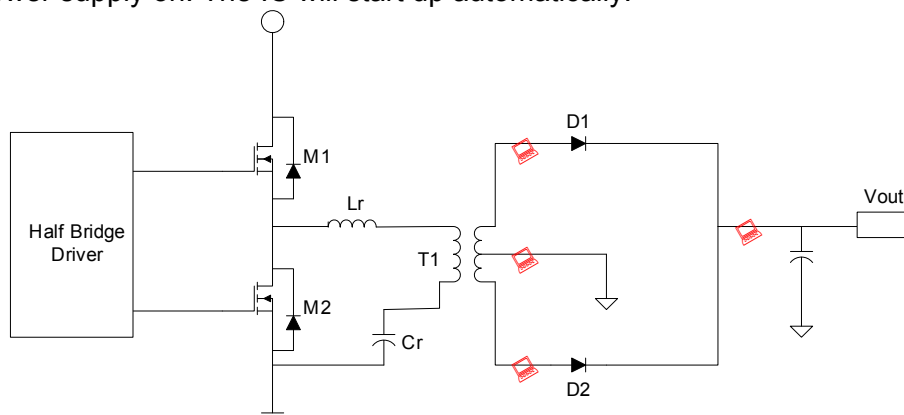

Figure 5—How to disconnect the diode rectifiers
1. Remove the diodes rectifiers from the board as the Fig.5 shows.